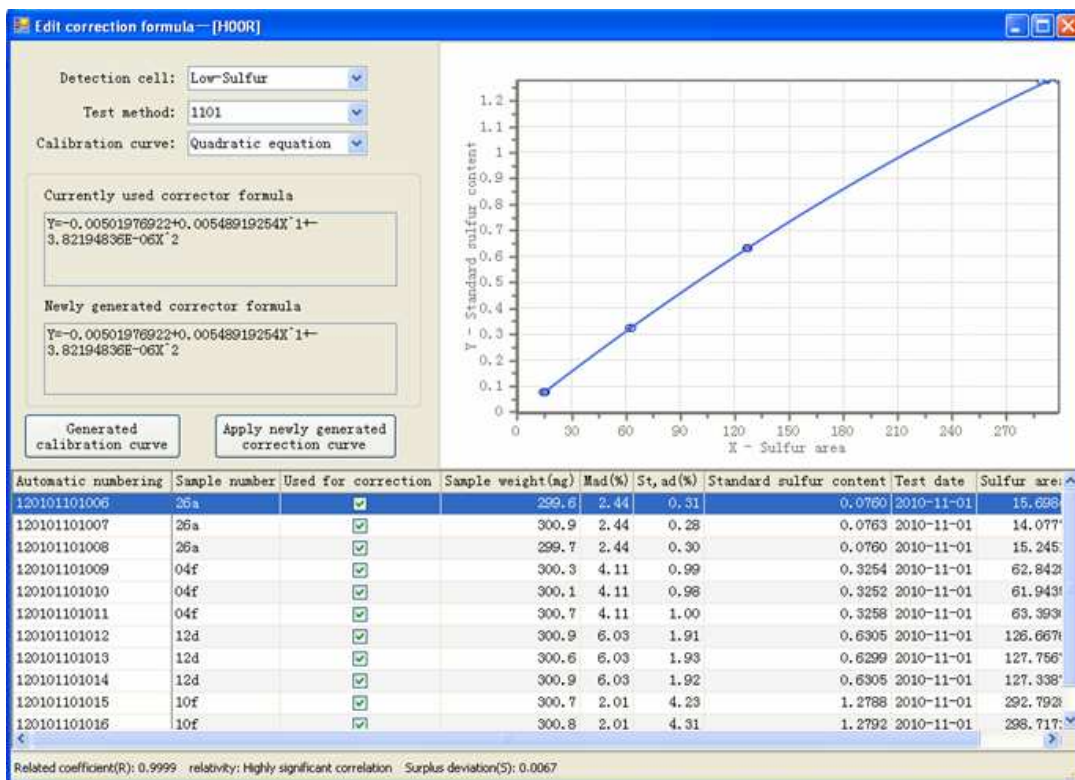

Fig. 5-1-8
**3. Edit correction formula:** click this item, popup the window as Fig.5-1-8; check and modify the correction formula and linear of some method.